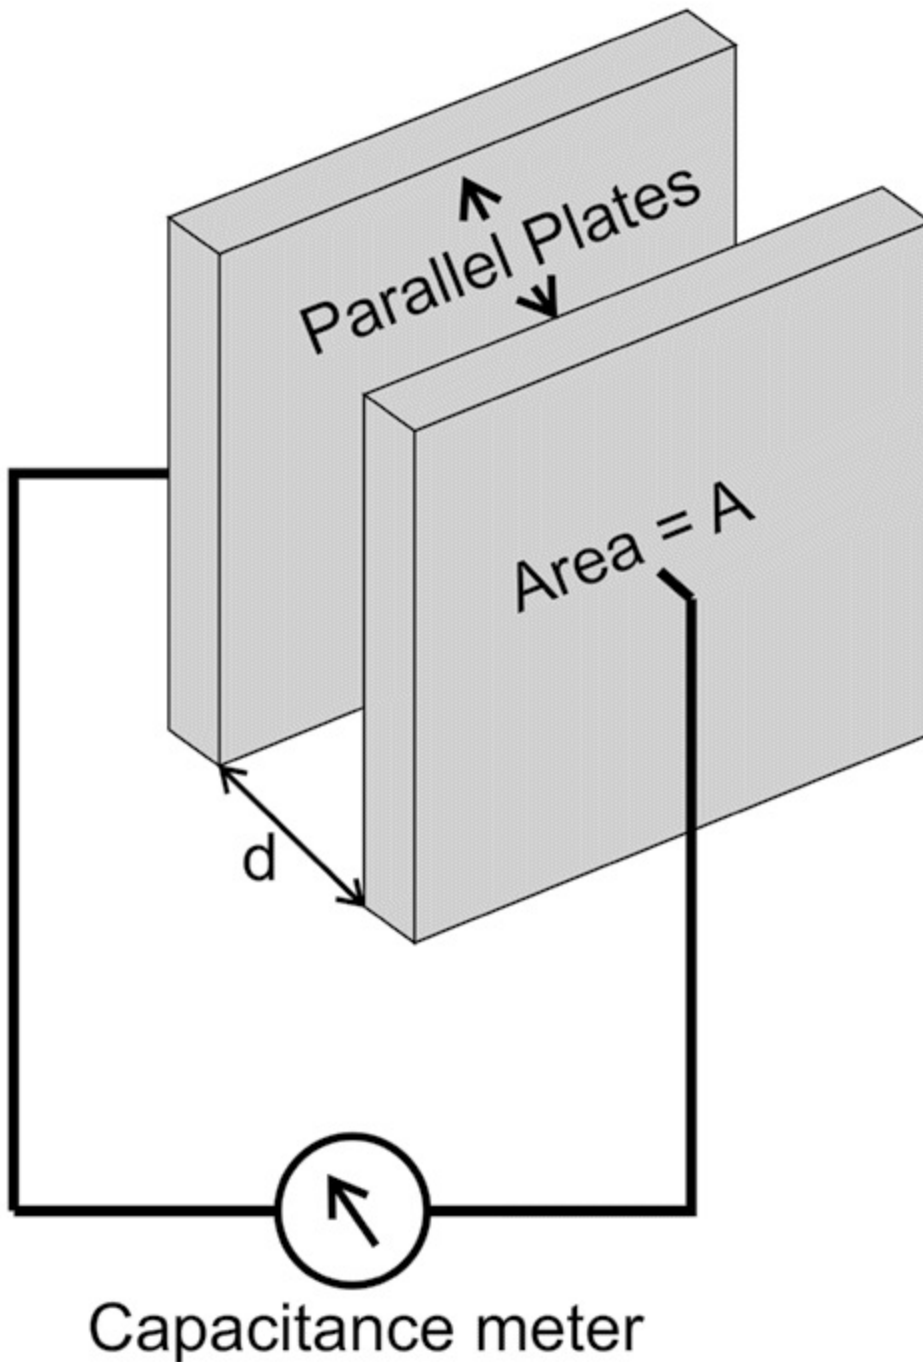

Fig P10.1
- 4. Make connection as per circuit diagram in Fig P10.1.